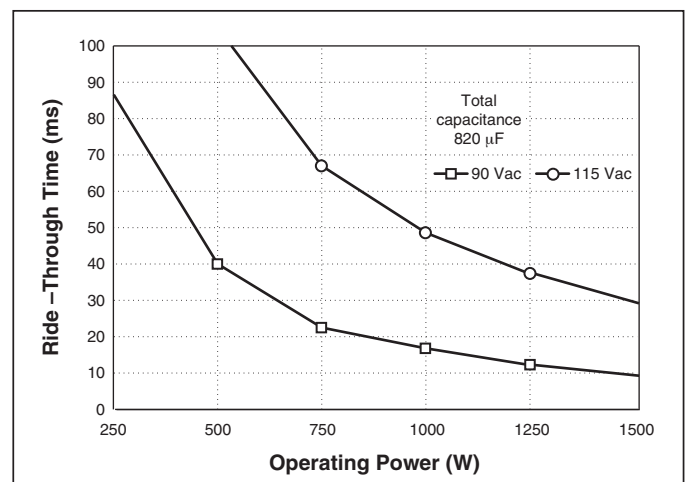

Figure 16 — Ride-through time vs. operating power
**Determining Ride-through Time.** Figure 16 illustrates ride-through time as a function of line voltage and output power, and shows that at a nominal line of 115 Vac, ride-through would be 68 ms. Ride-through time is a function of line voltage.